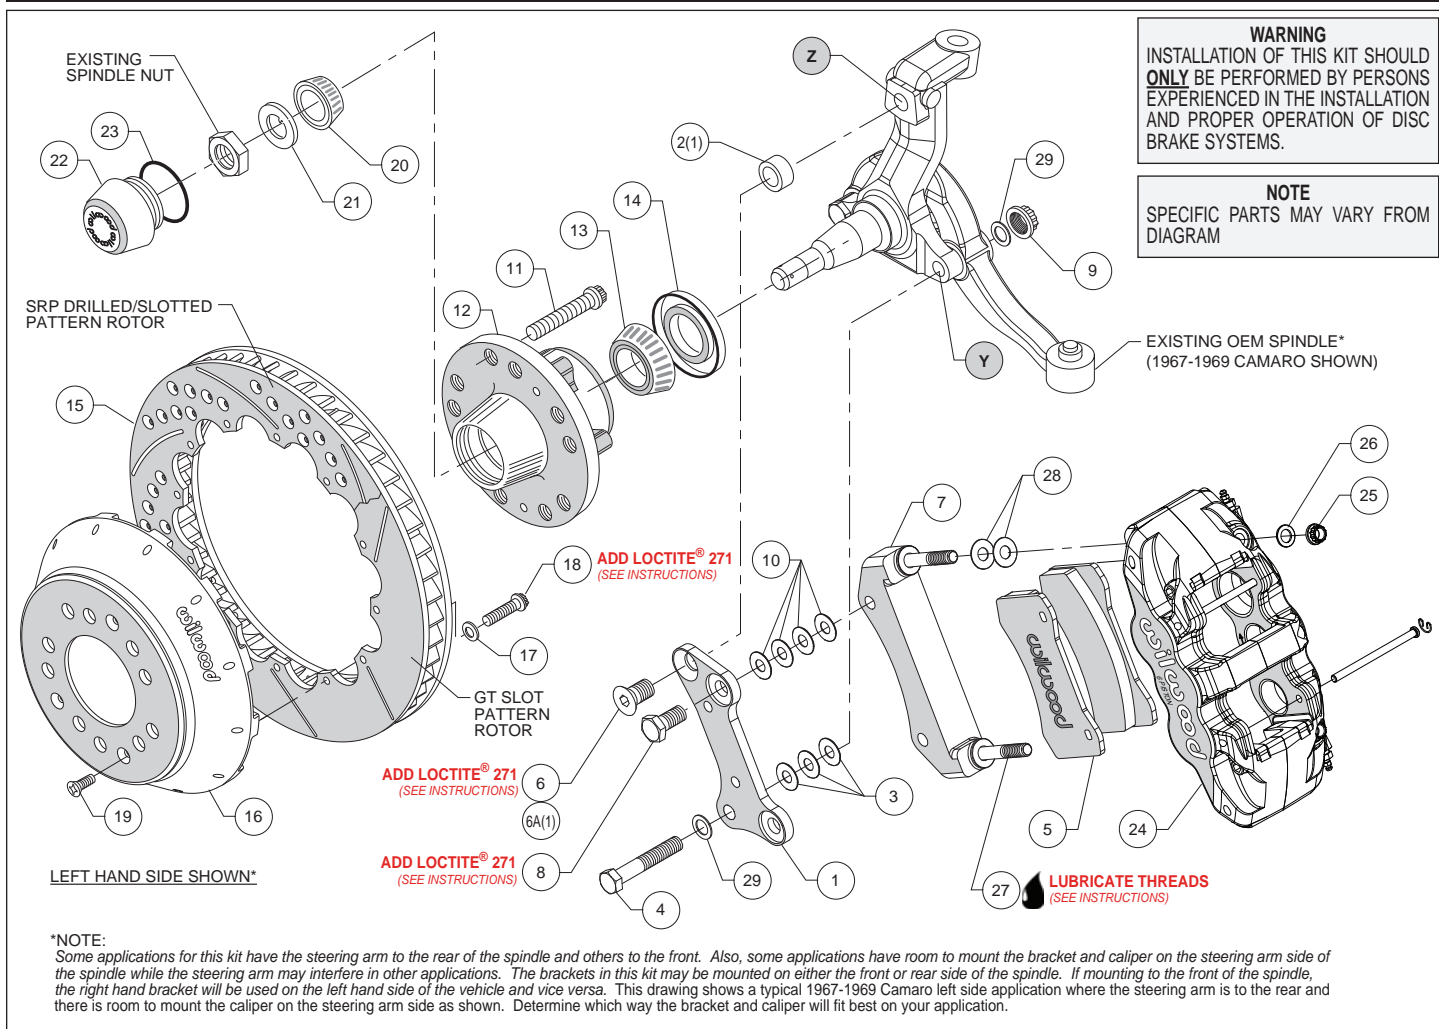
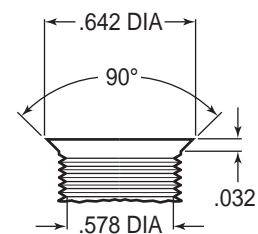
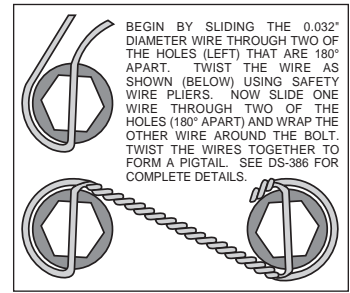

Figure 1. Typical Installation Configuration
Figure 3. Drill and Tap Detail
Figure 4. Safety Wire Diagram
Assembly Instructions (numbers in parenthesis refer to the parts list, and Figure 1 on the preceding pages):
NOTE: Some applications for this kit have the steering arm to the rear of the spindle and others to the front. Also, some applications have room to mount the bracket and caliper on the steering arm side of the spindle while the steering arm may interfere in other applications. The brackets in this kit may be mounted on either the front or rear side of the spindle. If mounting to the front of the spindle, the right hand bracket will be used on the left hand side of the vehicle and vice versa. Figure 1 shows a typical 1967-1969 Camaro left side application where the steering arm is to the rear and there is room to mount the caliper on the steering arm side as shown. Determine which way the bracket and caliper will fit best on your application.
NOTE: Some spindles in this year range may require the following modifications (reference Figure 1 and Figure 3): Top anchor pin hole (Z) must be drilled and tapped to the dimensions as outlined in Figure 3. The lower bolt hole (Y) in the spindle used to mount the new caliper bracket, and the mating steering arm hole, must be enlarged to .50" by drilling. It is recommended these modifications be performed by a qualified machinist.
Install wheel studs (11) into the hub (12), Figure 1 and Photo 1. Torque to 77 ft-lb. **NOTE:** There are two five lug patterns in the hub (5 x 4.50 and 5 x 4.75). Ensure the correct hub stud pattern is being used to fit the wheel application.
Orient the rotor (15) and the hat (16) as shown in Figure 1 and Photo 3. Attach rotor to hat using bolts (18) and washers (17). Using an alternating sequence, apply red *Loctite*[®] 271 to the threads, and torque to 155 in-lbs. For an added measure of security, the bolts may be safety wired using standard 0.032 inch diameter stainless steel safety wire as shown in Figure 4. Please refer to Wilwood's data sheet DS-386 (available at www.wilwood.com/Pdf/DataSheets/ds386.pdf) for complete safety wire installation instructions.
- Disc Brake Spindle Application Only:** Follow the instructions below, but instead use bolt (6A), and spacer (2) in the upper bolt hole location, Figure 1.
- Orient the flat bracket (1) as shown in Figure 1 and Photo 4, and install using bottom bolt (4), washers (29), and nut (9), Figure 1. Initially place three .032" thick shims (3) between the bracket and spindle. Install the upper bolt (6 or 6A), Photo 5. Temporarily tighten bolts. **NOTE:** *The bracket must fit squarely against the mounting surfaces on the spindle.* Inspect for interference from casting irregularities, machining ridges, burrs, etc. Temporarily install the hub and hat/rotor assembly. Check that the bracket is aligned parallel to the rotor, Photo 6. If not, adjust by adding or subtracting shims (3) on the lower bolt between the bracket and spindle, Figure 1. Once the bracket alignment is correct, remove the upper bolt (6 or 6A), apply red *Loctite*® 271 to the bolt threads, and torque to 120 ft-lb. Torque the lower lock nut to 65 ft-lb.
- The radial mount caliper bracket (7) should initially be installed with clean dry threads on the mounting bolts. Orient bracket as shown in Figure 1, and install using bolts (8). Initially place four shims (10) on each bolt between the two brackets. Temporarily tighten the mounting bolts. Later, after the caliper alignment has been checked, the mount bolts will be secured using red *Loctite*® 271.
- Pack the small outer bearing cone (20) with high temperature disc brake bearing grease and install into hub (12). Final install the hub assembly onto the spindle. Secure using spindle washer (21), and OEM spindle nut, Photo 7. Adjust bearings per OEM specifications. Install new cotter pin (not included).
- Screw dust cap (22) into hub (12), Photo 8. Friction created by the o-ring (23) on the dust cap keeps it from unscrewing. **NOTE:** *The O.D. of the existing OEM spindle washer may be larger than the I.D. of the dust cap not allowing it to seat against the hub face. Therefore, use the spindle washer (21) supplied with the kit instead of the OEM washer.*
- Final install the hat/rotor (15 and 16) onto the hub (12) taking care to align the small countersunk holes in the hat with the small threaded holes in the hub. **NOTE:** *The hat must fit flush against the hub face or excessive rotor run out may result.* Install three flat head screws (19) through the small holes in the hat (16), Photo 9, and torque to 85 in-lb.
- NOTE:** *This kit contains distinct right and left hand calipers that must be mounted in a specific direction, as described below.* Lubricate the caliper mounting studs (27) with lightweight oil. Initially place two .030" thick shims (28) on each stud between the caliper and the bracket, as shown in Figure 1 and Photo 10. Mount the caliper (24) onto the bracket (8) using lock nuts (25) and washers (26), Figure 1. Ensure that the caliper is mounted so the largest pistons are at the rotor exit end of the caliper, in relation to the direction of rotor rotation. Temporarily tighten the lock nuts and view the rotor through the top opening of the caliper. The rotor should be centered in the caliper, Photo 11. If not, adjust by adding or subtracting shims (10) between the flat bracket (1) and the radial mount bracket (8). Always use the same amount of shims on each